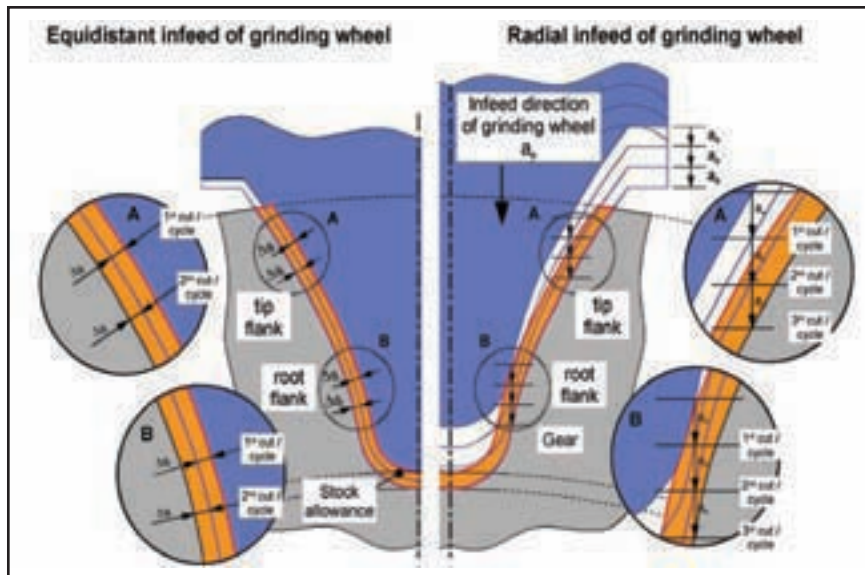

Figure 1—Local stock removal depending on the process strategy.
2. Thoen, Richard L. "Precision Gears," *Machine Design*, April 5, 1956, Figures 1, 2, 3 and 4.
Local grinding conditions along the profile in gear profile grinding. Basically, there are two process strategies that are commonly used for gear profile grinding in industrial practice. The left side of Figure 1 shows a grinding process with the removal of an equidistant stock along the profile. These are typical contact conditions occurring in single-flank grinding, with an in-feed realized by a rotation of the workpiece (Refs. 2, 4).
The right side of Figure 1 shows the removal of a constant stock in the radial direction, realized by a radial infeed of the grinding wheel in multiple steps. This is the process strategy most commonly used in industrial practice. It is obvious that the initial stock removal is not constant along the profile. In the first cut, stock is removed in the area of the root flank only. With further infeed, the area of stock removal is increasing. The whole stock in the tooth root is removed in the last cut only.